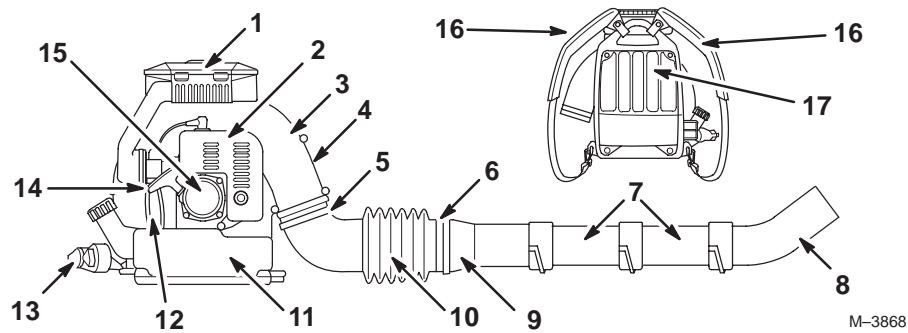

Figure 2
or Service Representative provide exact information about your specific product. You will find the model and serial number decal located in a unique place on the product (Fig. 2).
2. Using the bands, connect the flexible pipe to the blower, and the swivel pipe to the flexible pipe (Fig. 2).
3. Assemble the straight pipe and bent pipe. Then connect them to the swivel pipe (Fig. 2).
Refer to Figure 2 for the location of major backpack blower components.